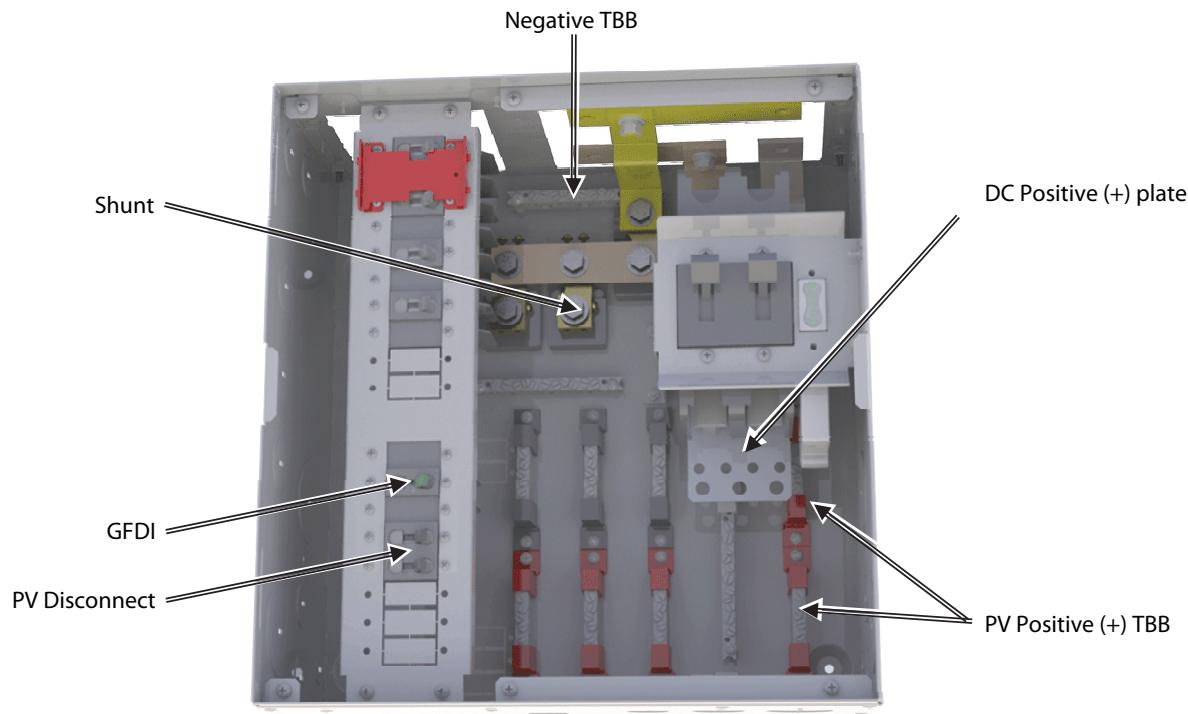

Figure 28 PV Connections in the GSLC
1. Connect the PV positive wire to the GSLC's PV positive (+) TBB (see Figure 28).
3. Install a wire from the PV TBB to the PV disconnect circuit breaker (see Figure 28).